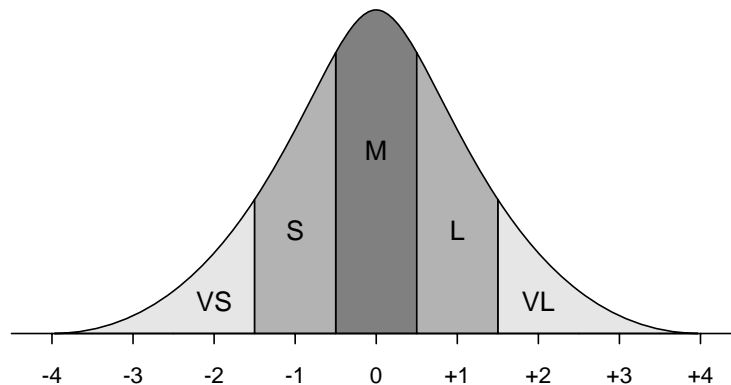

Figure 1. Ranges of standard deviations
The medium range (M) is the area from -0.5 standard deviations to +0.5 standard deviations from the mean, as shown in Figure 1. Assuming that the data approximates a normal distribution, the likely number of parts that are within plus or minus 0.5 standard deviation of the average value is 38.3 percent. Following similar logic, the range percentages are as follows: